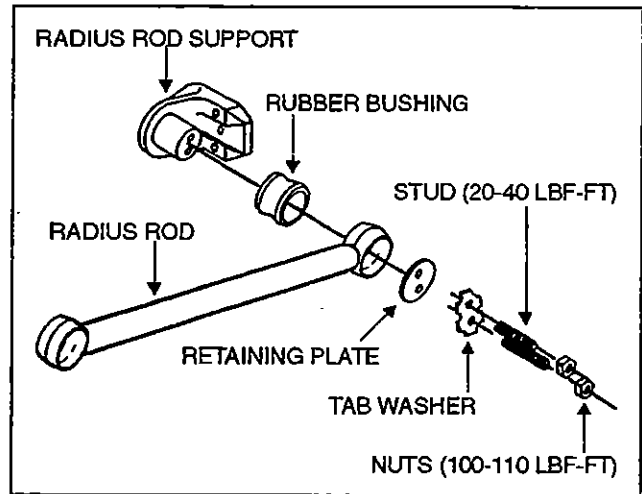

Figure 7
1. Flatten the tab washer which secures the two retaining nuts (or bolts), then unscrew the nuts (or bolts) at each extremity of the radius rod (see fig. 7).